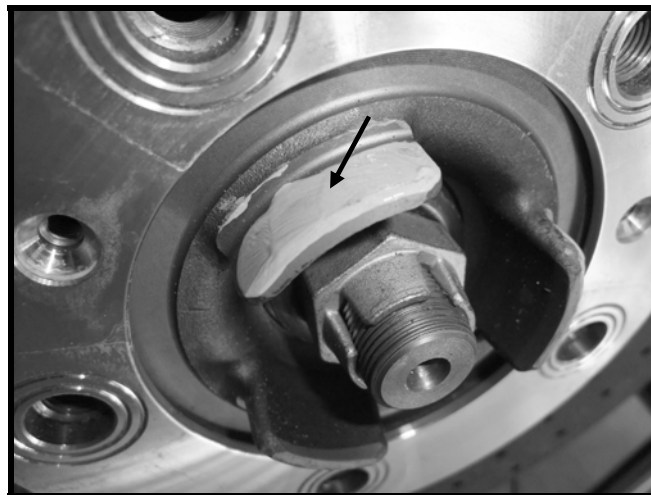

Fig. 01
- 1 Apply a thin layer of the supplied grease onto the cleaned hub. (Fig. 01)